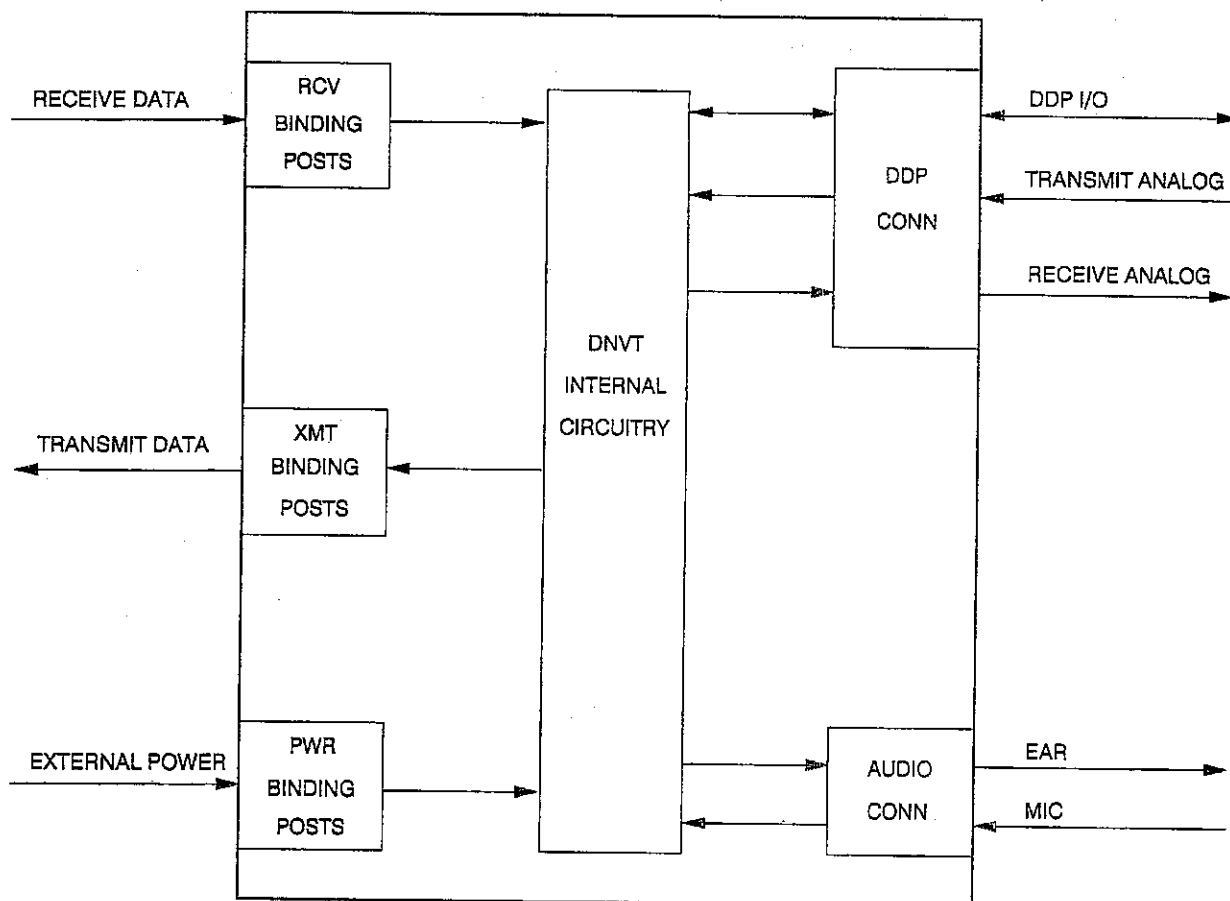

Figure 5-1. Block Diagram
5-1. **GENERAL.** The Digital Non-Secure Voice Terminal (DNVT) is a ruggedized field telephone which transmits and receives full duplex, digital (conditioned diphase) voice and data communication signals. Supervisory tones, generated by equipment external to the DNVT, prompt the operator for inputs, or notify the operator of problem or error conditions. Two modes of operation, local battery (LB) and common battery (CB), are supported by the DNVT. Figure 5-1 is a block diagram showing the external connections to the DNVT. Circuitry internal to the DNVT provides the audio interface, analog-to-digital (A/D) and digital-to-analog (D/A) conversion, digital data loop interface, signaling, supervision, and all user interface functions required for operation. Reference to figure 5-1 will facilitate a better understanding of the following text. A source of earphone audio, denoted as EAR, and microphone audio, denoted as MIC, interfaces with the DNVT through the handset. The handset used with the DNVT provides both a microphone for transmitting and an earphone for listening to audio signals. The handset interfaces to the DNVT through the audio connector. Digital data from an external device interfaces with the DNVT through the DDP connector. The DNVT uses the continuously variable slope delta (CVSD) method of A/D and D/A conversion. All transmissions both to and from the DNVT are carried out using a conditioned diphase (CDP) data transmission method. Digital data signals are received by the DNVT over the field wires connected to the receive (RCV) binding posts. Signals generated by the DNVT and transmitted to another DNVT or a Tactical Circuit Switch (TCS) are sent over the field wires connected to the transmit (XMT) binding posts.